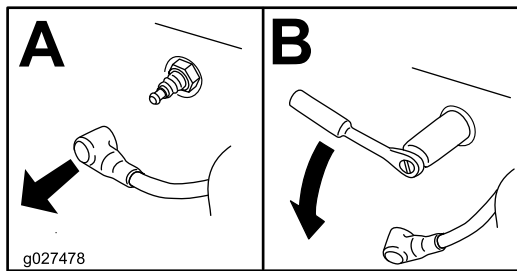

Figure 41
3. Remove the spark plug (Figure 41).